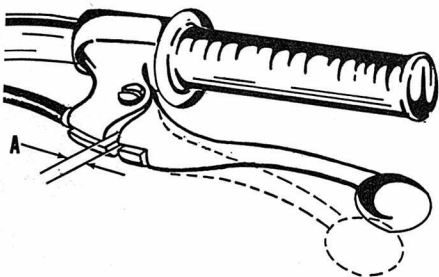
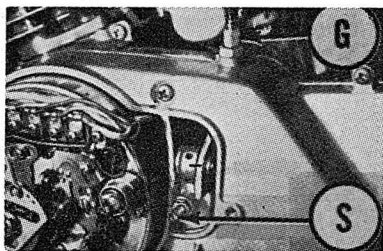

Fig. Y4-9—The clutch hand lever should have  $\frac{1}{8}$ – $\frac{1}{4}$ -inch free play at (A).
Fig. Y4-10—The clutch adjusting screw (S) is located under left side cover. Hand lever free play is adjusted at cable guide (G).
**CLUTCH CONTROLS.** The clutch hand lever should have  $\frac{1}{8}$ – $\frac{1}{4}$  inch free play at (A—Fig. Y4-9). To adjust, remove the engine left side cover and loosen lock nut. Turn the adjusting screw (S—Fig. Y4-10) in until slight resistance is felt, then back screw out  $\frac{1}{4}$  turn and tighten lock nut. Turn the cable guides at ends of cable until the hand lever free play (A—Fig. Y4-9) is correct.